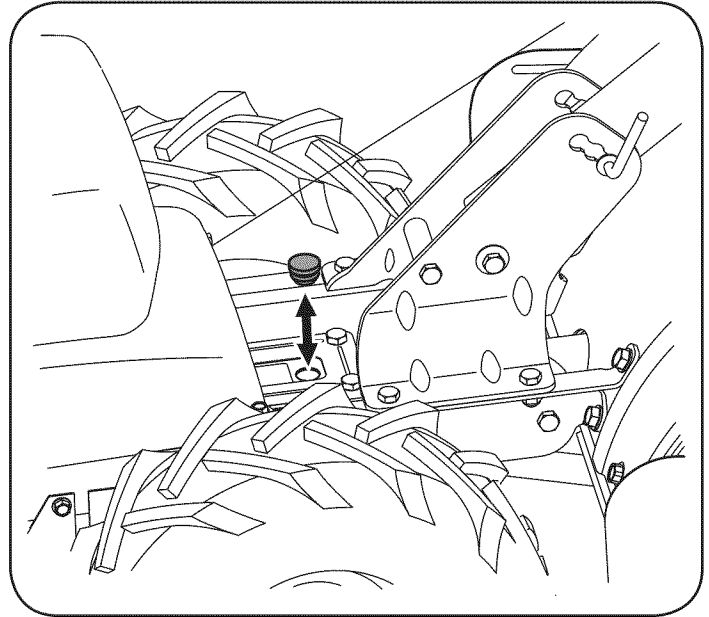

Figure 21
3. Remove the oil fill plug from the transmission housing and look inside the oil fill hole to locate the main drive shaft situated below the hole. See Figure 21.